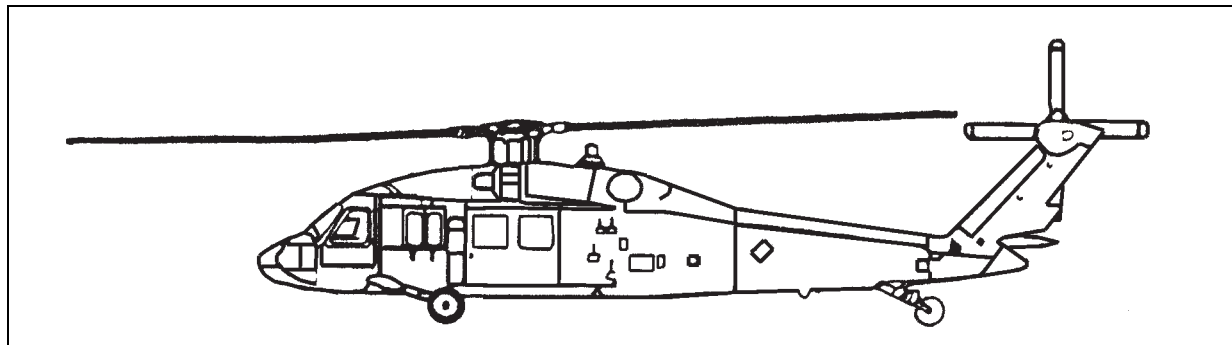

Figure 2-21. H-60 Blackhawk
- **H-60 Blackhawk.** The H-60 (figure 2-21) is a twin engine, single main rotor helicopter manufactured by Sikorsky Aircraft. Its primary missions are search and rescue, to aerial deliver personnel, supplies, and equipment or perform antisubmarine warfare duties.